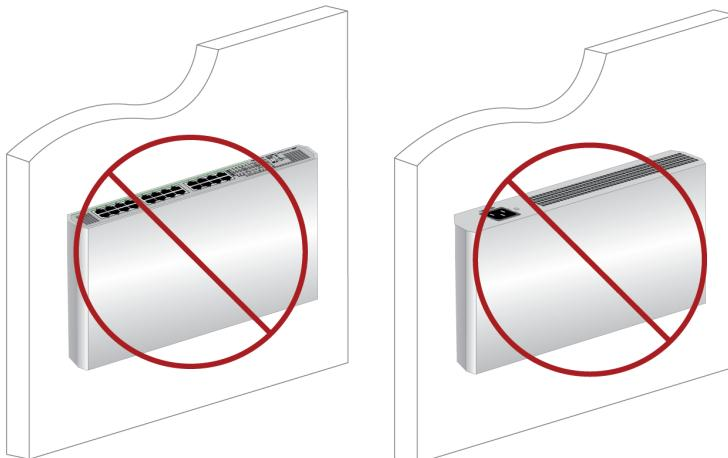

Figure 17. Incorrect Wall Installation
- Mounting the front panel facing up or down on the wall is incorrect for the AT-GS910/5, AT-GS910/8, AT-GS910/8E, AT-GS910/16, and AT-GS910/24 switches. See Figure 17 as examples.